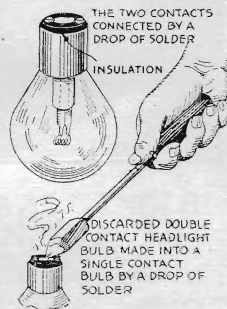

Fig. 5. Solder turns double filament bulb into fine stop light.
**DOUBLE** filament headlights are no longer useful in the headlights when one filament burns out. However these bulbs can be converted into single contact bulbs useful for dome, stop lights and so on by a simple job of soldering. If you examine such a bulb you will find that there are two contacts at opposite sides of the insulation that protrudes from the base. Take a soldering iron as shown in Fig. 5, and flow a little solder across the insulation joining the two contacts. Be careful that no solder flows down over the insulation and makes contact with the metal shell as this would cause a short circuit.